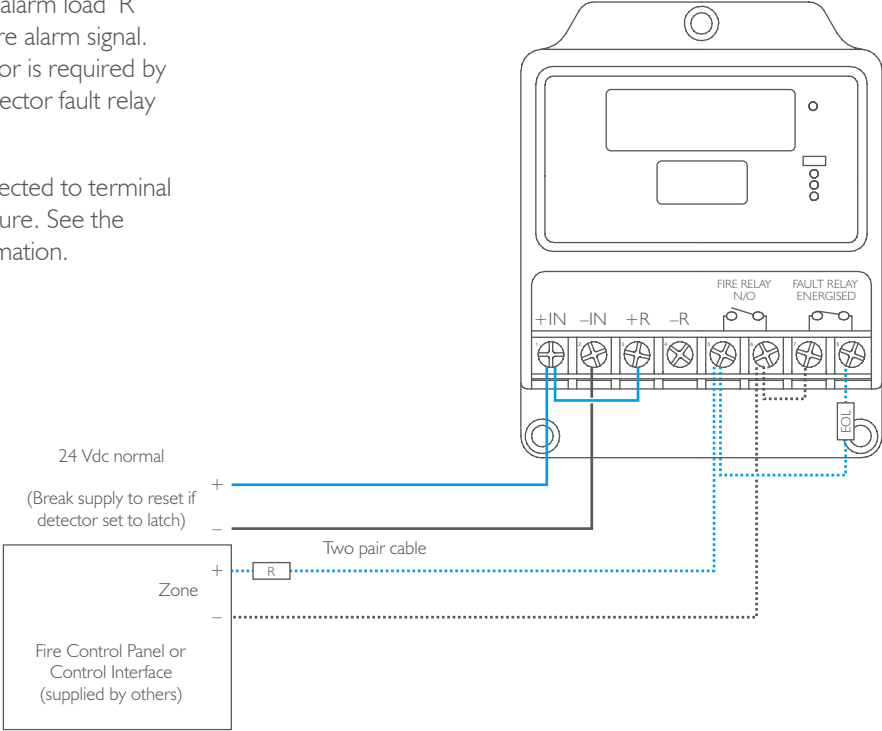

Figure 16. Four-wire connection diagram – single detector
- 2) Volt-free contacts from two internal relays RL1 (Fire) and RL2 (Fault or Pre-alarm). Using the relay contacts connected in a four-wire configuration, the detector status can be signalled back to control equipment – see Figure 16.